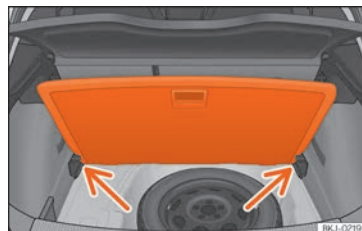

Fig. 167 Variable boot floor: tilted position.
- Lift the variable floor in the high position using handle ①, pull it up and push it towards the backrest of the rear seats until the floor folds along the hinge line and the movable part of the floor is resting on itself.
- Rest the floor on its housings » Fig. 167 (arrows).